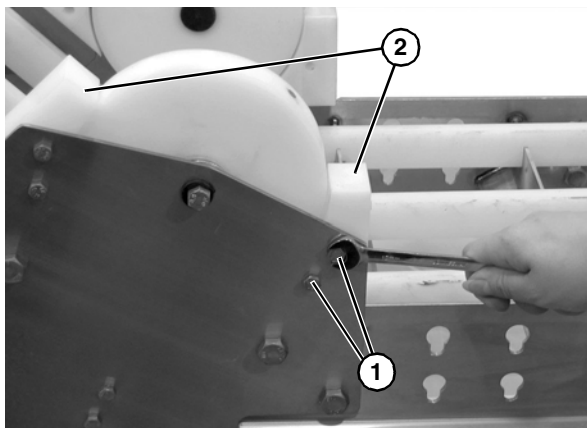

Figure 66
2. Remove two cap screws (Figure 66, item 1) on each side of the knuckle and remove the hold down roller guards (Figure 66, item 2). Repeat on opposite side of the conveyor.